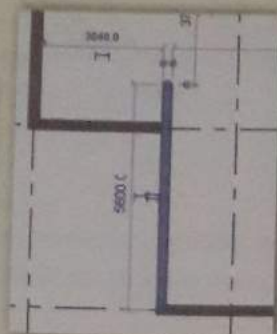

Figure 51: Editing wall length.
18. Increase the wall length of same wall to 5600 with help of grip editing and temporary dimension (Figure 51).